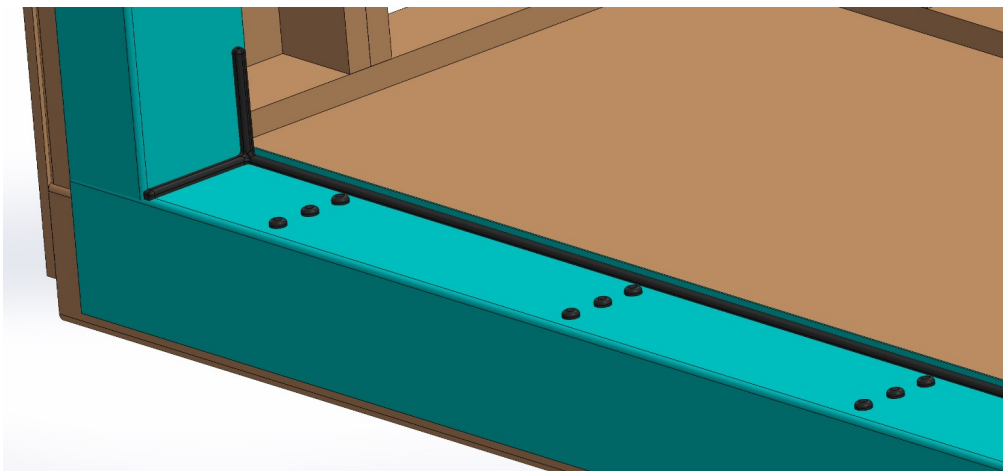

Figure 3
6. With the sill assembly removed, and clean from debris, apply a 1/2" continuous bead of sealant to the floor from jamb to jamb along the exterior edge of the mark previously applied at the sill. The sealant should be applied in a U-shape to ensure a proper and complete water-barrier has been accomplished across the full width of the sill opening, and at least 6" up each side. (See Figure 3).